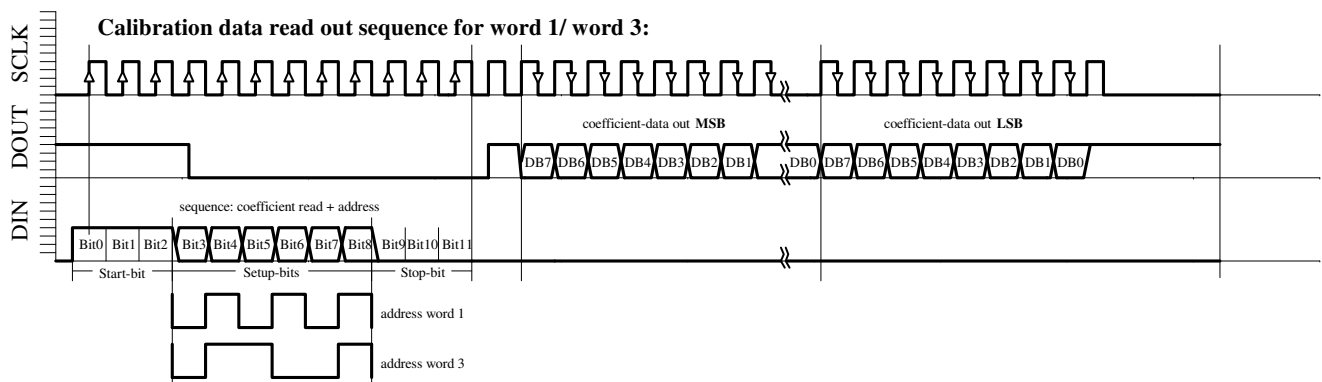

Fig. 6c: Word1, Word3 READING sequence
- Calibration data read-out sequence for Word1 (Figure 6c)
- Calibration data read-out sequence for Word3 (Figure 6c)